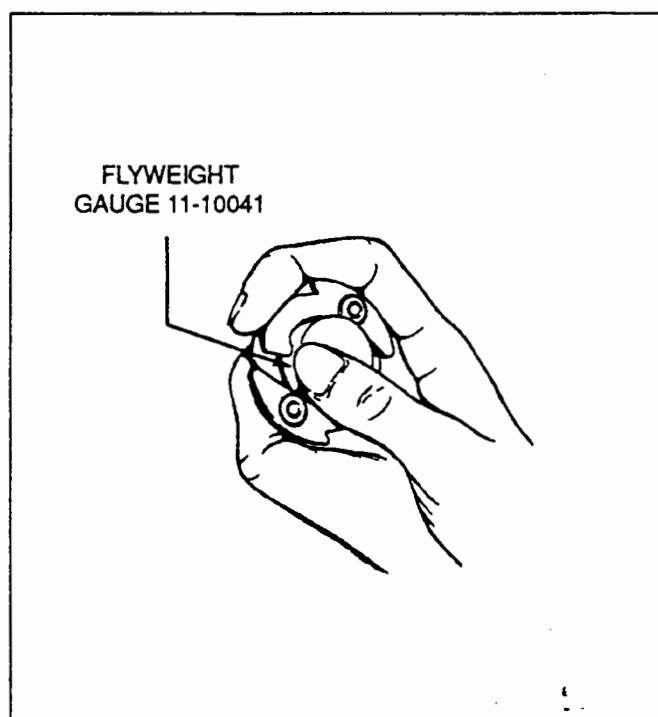

Figure 74-14. Checking Flyweight Radial Wear with Gauge
4. Inspect for axial wear between flyweight and axle using shank of a new No. 35 drill as a gauge. Hold flyweight so the outer radius is in alignment with the rim of the cam flange and try to insert the drill shank between the flange and flyweight as shown in Figure 74-14. Do not force the drill. If the drill can be inserted, replace the cam assembly.